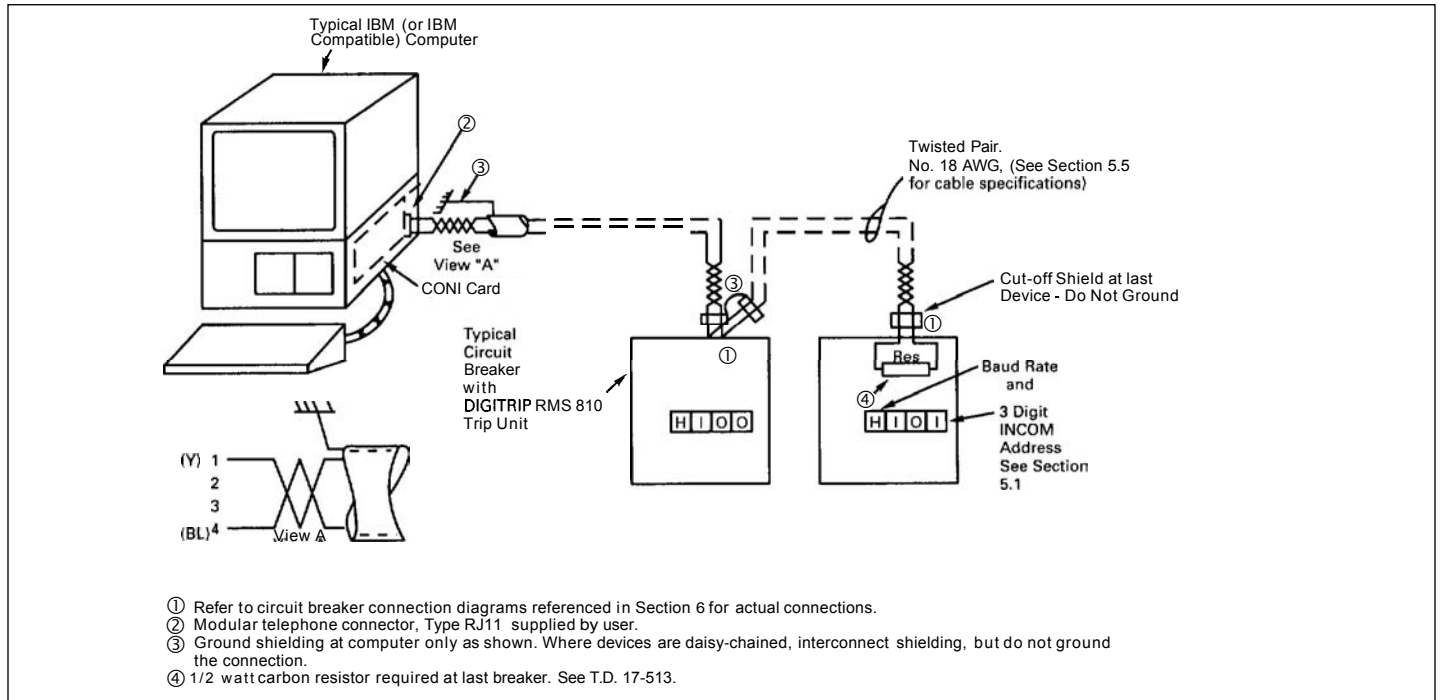

Figure 21. INCOM with Remote Master Computer.
- A remote master personal computer (PC) - IBM® compatible (see Figure 21 and references in Section 6).
- Note:** For correct communications, be sure to use the terminating resistor at the end of the twisted pair (last element in the INCOM® chain) (see Figures 21, 22, and 23, and refer to the IMPACC® Wiring Specification listed in Section 6).
To communicate with a remote master (IBM® compatible) personal computer, install a Eaton Computer Operated Network Interface (CONI) card or Master INCOM Network Translator (MINT) into the computer frame (chassis). The connections in the network are then made by twisted pairs of wires as shown in Figure 21.